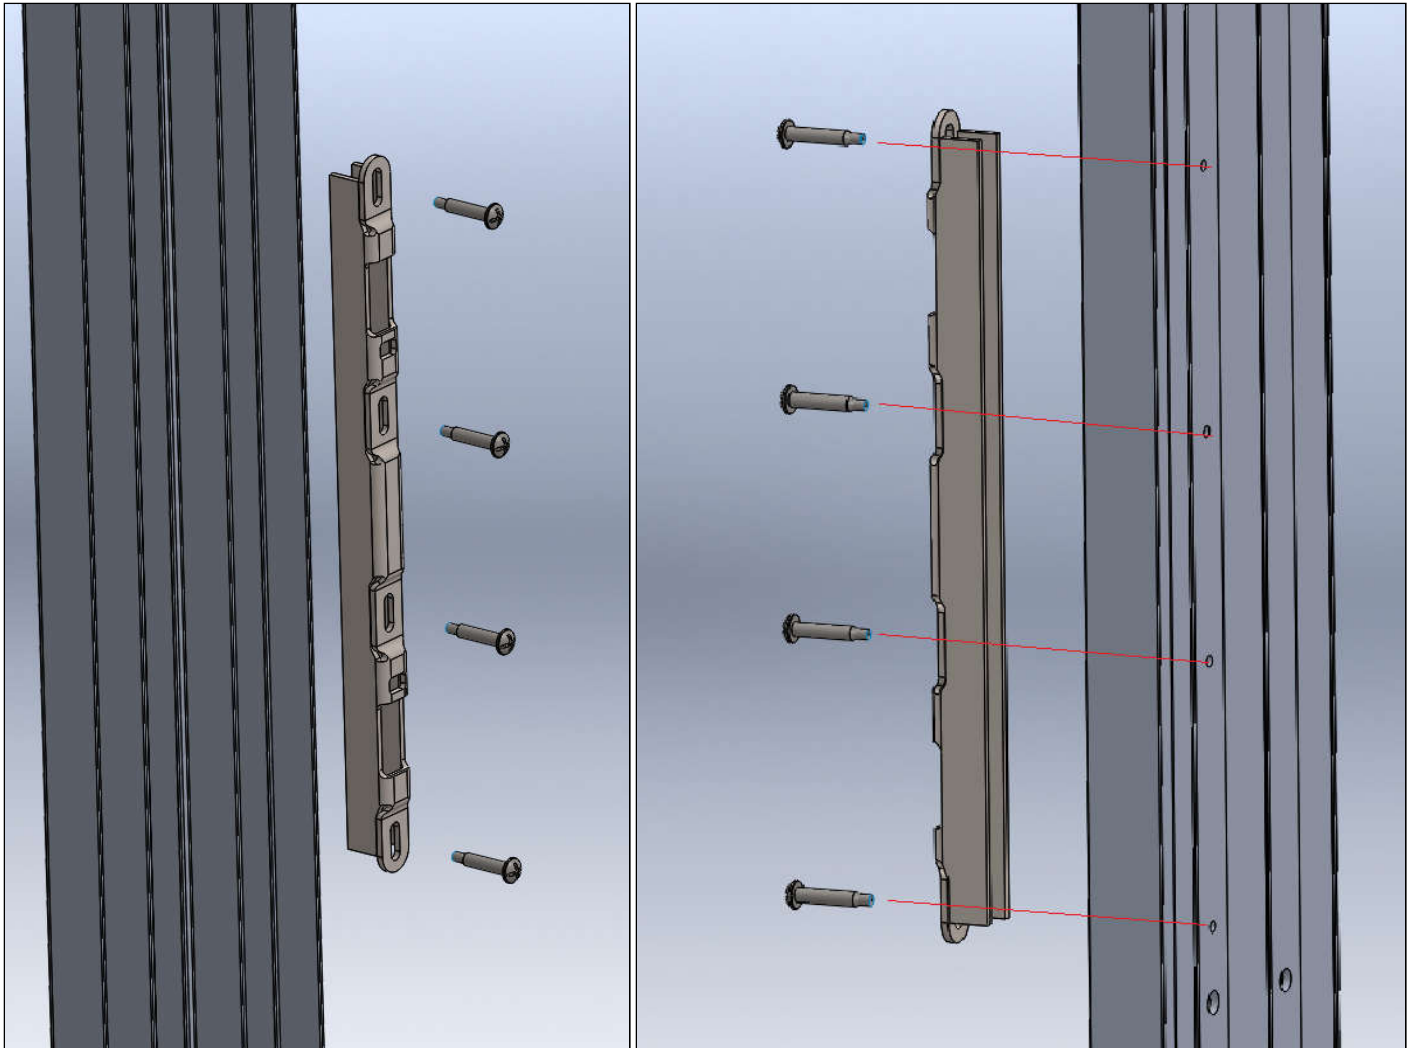

Figure 22
- 3) Attach keeper (see Fig. 22) to frame jamb using four (4) pan head screws supplied. Jamb will be punched in the location the keeper is installed into the frame jamb.